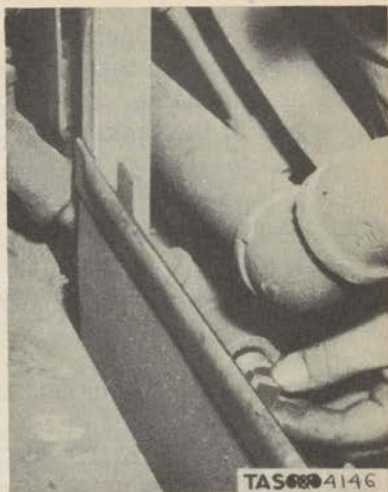

Figure 178. Removing
(11) Remove a 3/4-inch drain plug in the discharge line close to the frame at the right front end of the tank. (Fig. 178)